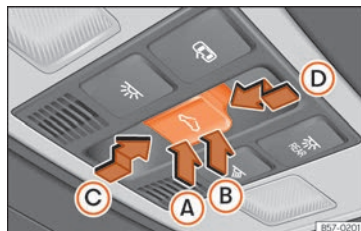

Fig. 102 On the interior roof lining: sunroof button.
The ⇄ button » » Fig. 102 has two levels. The first level switches the sunroof to the tilted position, opening or closing it fully or partially.
- Within approximately 5 seconds of having activated the roll-back function, press the  **Fig. 102** button to the second level in the direction of arrow **Fig. 102**  until the sunroof closes completely.